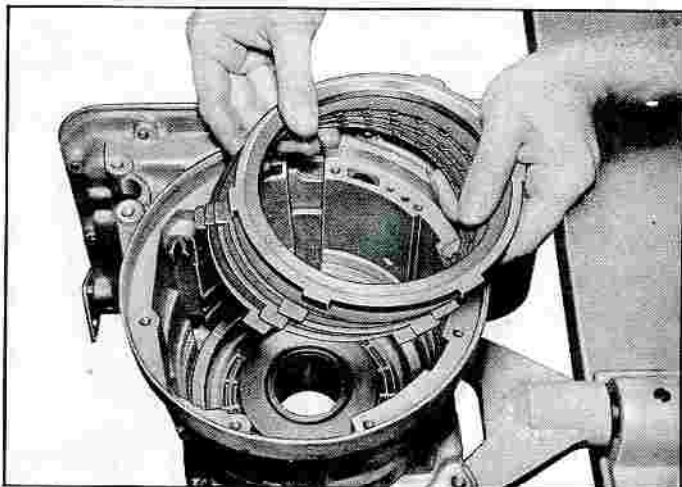

Fig. 7E-51—Installing Reverse Clutch Plates
4. Install the reverse clutch drive and reaction plates (fig. 7E-51) alternately starting with a reaction plate (steel) and finishing with a drive plate (faced). The notched lug in each steel reaction plate is installed so it is at the top of the groove at the 4 o'clock position in the case. Then install the thick reaction plate. It has a square "dimple" on its lug which engages the 4 o'clock case groove.